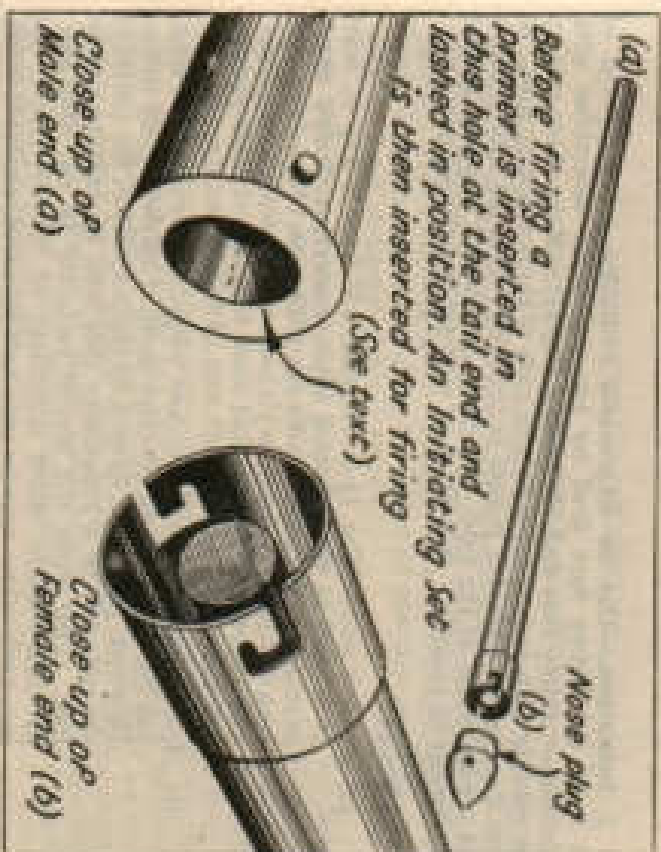

Fig 18. 2 in. Bangalore torpedo, Mk 1
1. Description (see Figs 18 and 19)
The 2-in torpedo formerly issued weighed 25 lb per 5-ft length. Owing to its weight it has now been replaced by the 14-in. The 2-in torpedo may still be met in training and is illustrated in Fig 18.